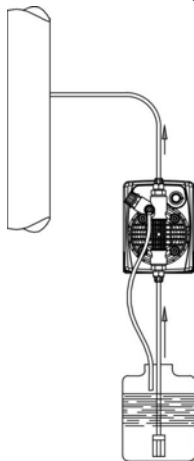
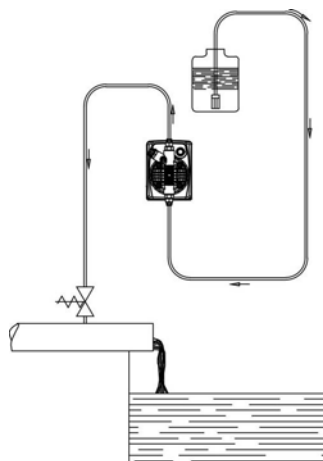

Fig. 5
Fig. 6
c.- Install the pump in any way as shown in Fig. 5. If installed above the chemical tank, it is important that the pump height should not exceed the rated suction height, over the level of the chemical. When the process plant in which the pump is installed is operating at atmospheric pressure (no back pressure) and the chemical tank is situated above the plant (Fig. 6), the condition of the injection valve should be checked at regular intervals, because excessive wear and tear could cause additive to drip into the plant even when the pump is shut down. If the problem persists, install a properly calibrated counter-pressure valve (C) between injection point and the valve. In the case of liquids that generate aggressive vapours, do not install the pump above the storage tank unless the latter is hermetically sealed.